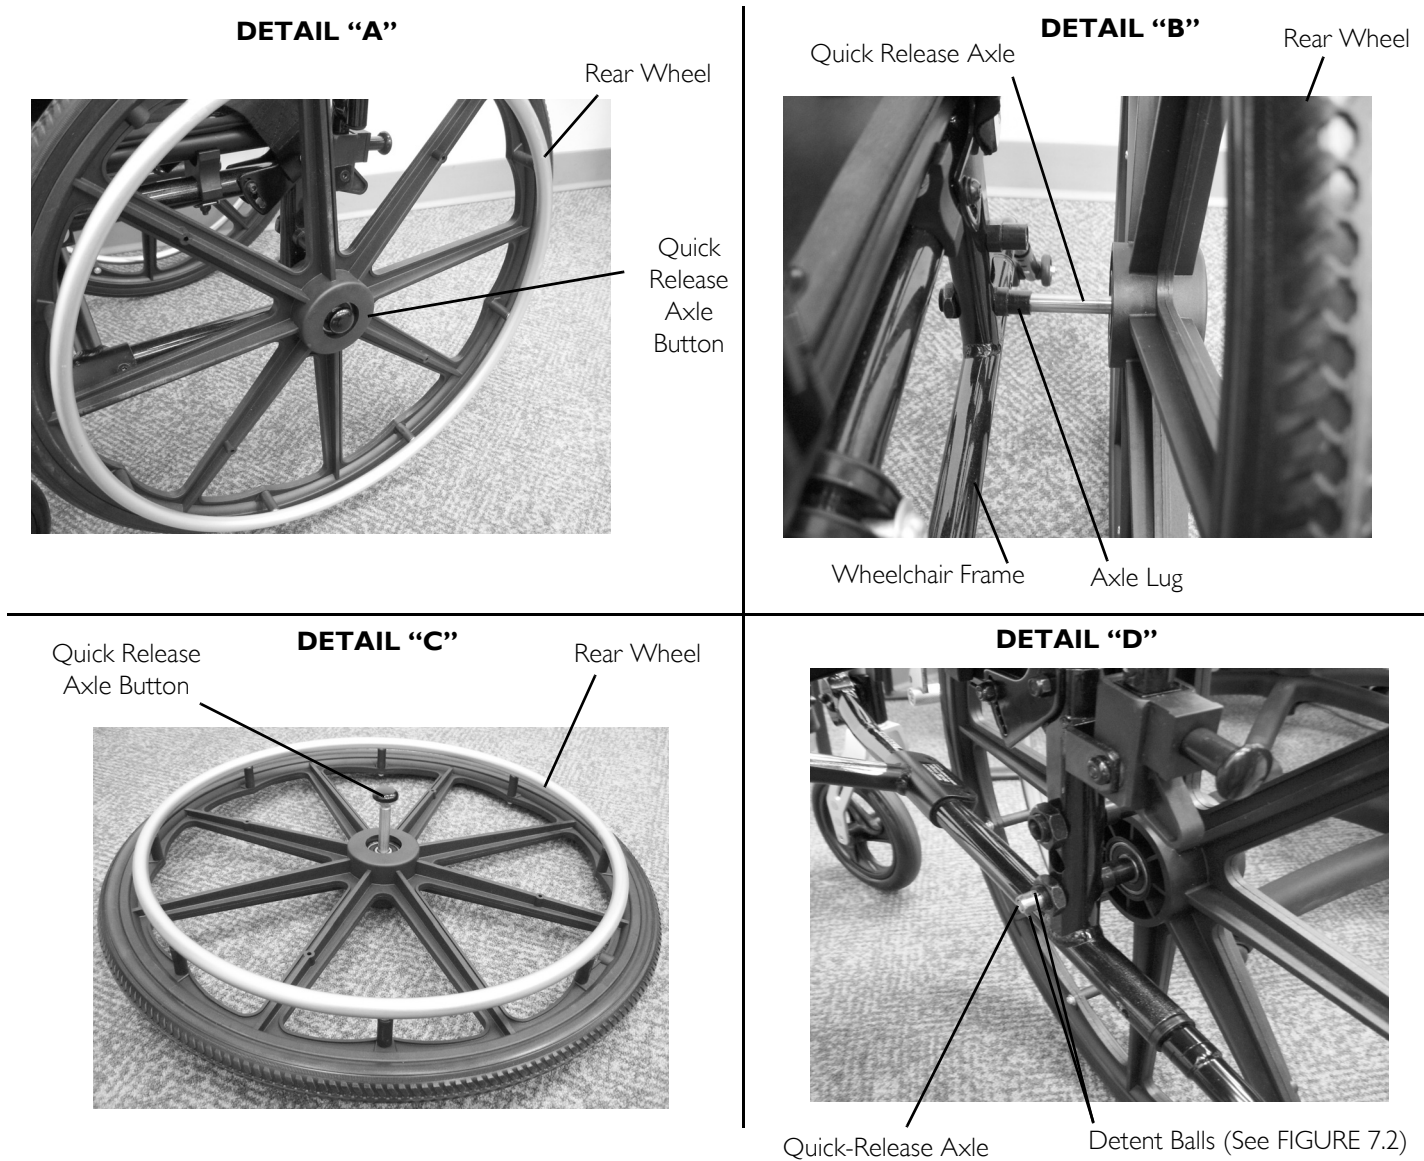

FIGURE 7.1 Removing/Installing Rear Wheels - Removing
NOTE: For this procedure, refer to FIGURE 7.1 on page 31.
NOTE: For this procedure, refer to FIGURE 7.1 and FIGURE 7.2 on page 32.
1. Push in the quick release axle button and pull the quick release axle with rear wheel out of the axle lug in the wheelchair frame (FIGURE 7.1).
2. Push in the quick release axle button again and pull the quick release axle out of the rear wheel (FIGURE 7.1).